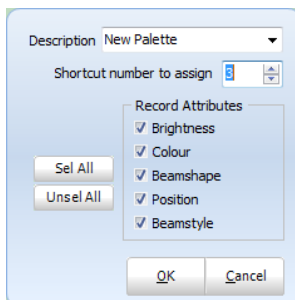

Figure 87: Record Palette
2. The dialog in Figure 87 will prompt you to enter the palette name and shortcut number you would like to assign to the current state. You can also select what attributes you want to include in the palette using the check boxes provided.